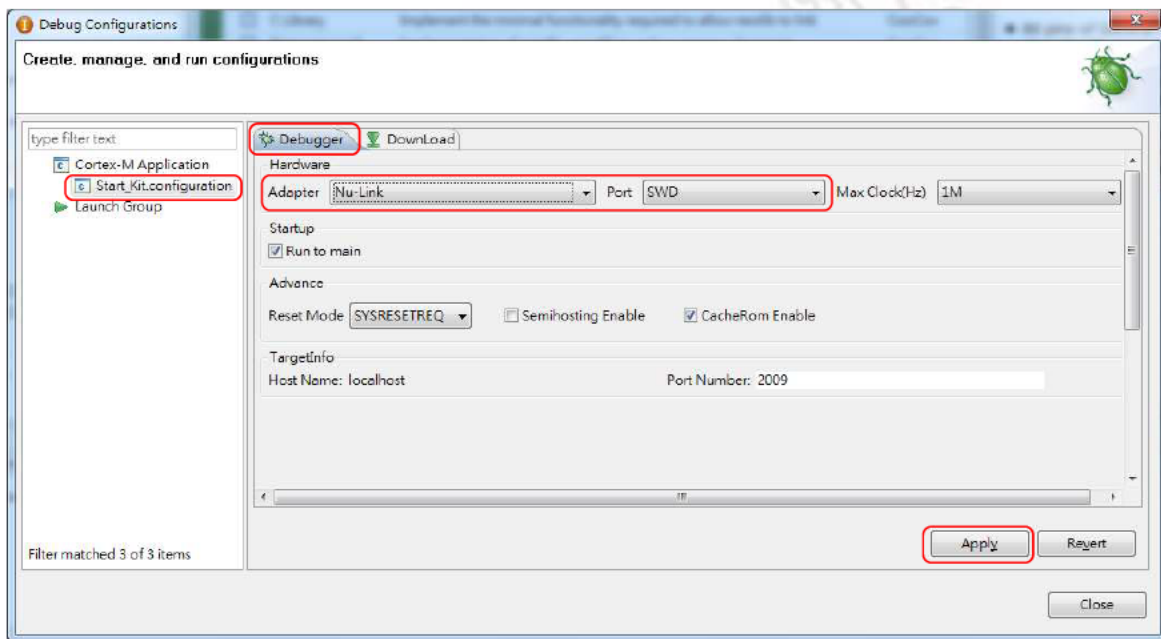

Figure 4-20 Specify the Debugger Options for CooCox CoIDE
Step 3: In the **Debugger** tab of the *Debug Configurations* form (through invoking **Debug** → **Debug Configurations**), select **"Nu-Link"** as the Adapter, select **"SWD"** as the Port, and click **Apply** to save the settings, as shown in Figure 4-20.